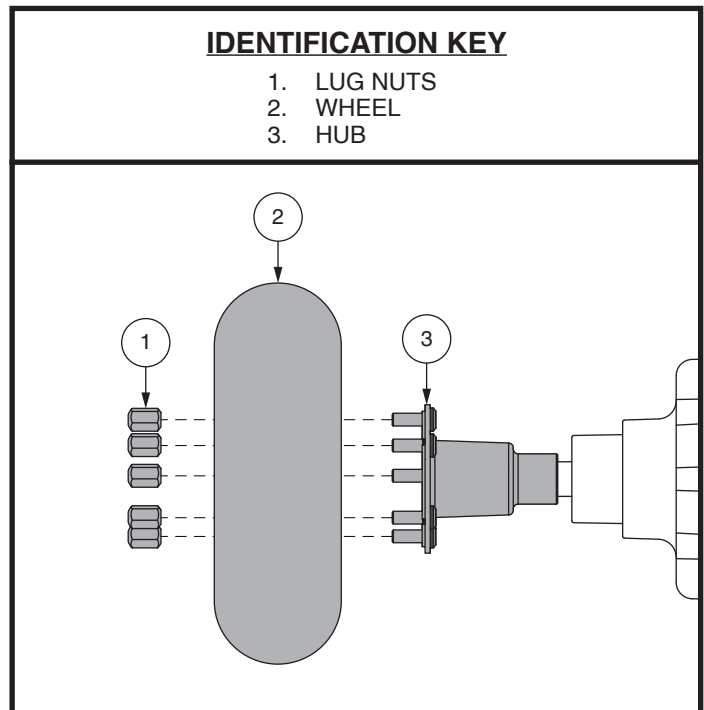

Figure 28. Wheel Replacement
4. Remove the lug nuts from the hub. See figure 28.